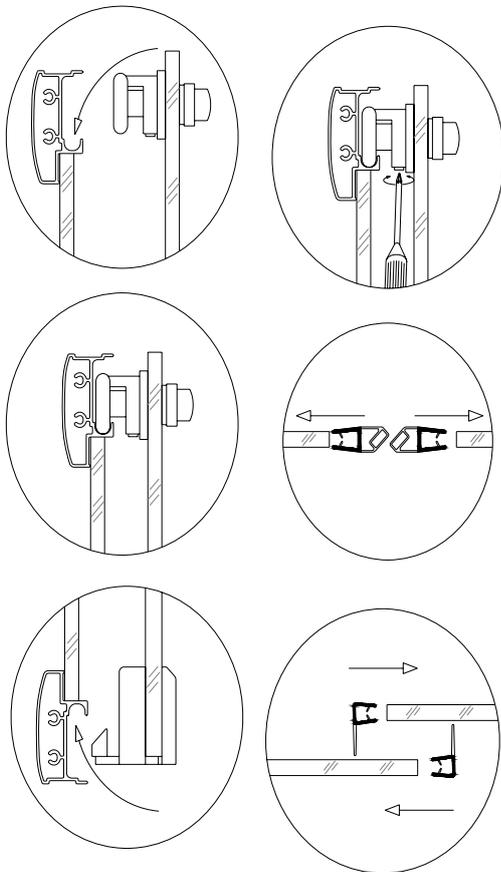

Fig 9
9. Install the Roller assemblies and the Hooks on the Glass door. Hang the Glass door on to guide rail (fig 9).
10. Hang the Hooks onto bottom guide rail (fig 9).
11. Adjust the Roller assembly bottom screw up and down to make the door moving smoothly (fig 9).
12. Install Handle (7) on The Glass door.
13. Install Waterproof flanged strip (8). One on the Stationary glass 1 (4) and another on the Glass door (on the side which is opposite of handles) (fig 9).